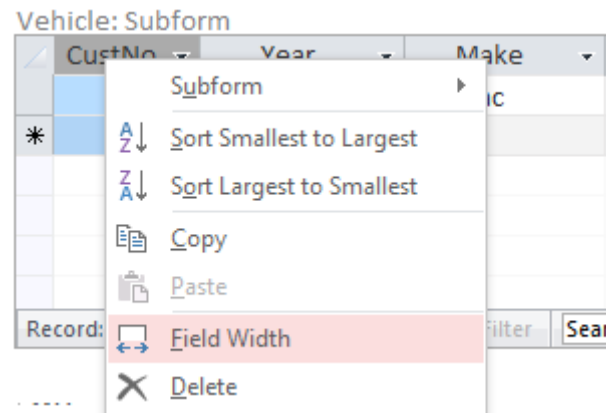

Figure 36: Selected Column and Right Mouse Shortcut Menu
5. **Modify the Subform:** Toggle to Form view and you will modify the size of the *CustNo* column to "Best Fit". Select the *CustNo* column and right-mouse-click to open the shortcut menu (Figure 36). Select **Column Width...** and choose "Best Fit" from the dialog box. Close and answer "Yes" to save the form when prompted.